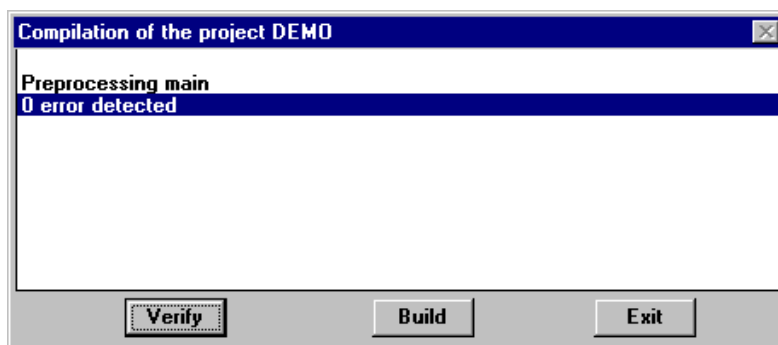

Figure 2-12 : Compiler window. Text after verification: "Verify"
- ⇒ Click the "Verify" button, wait for the message "0 error detected" (Figure 2-12) then click on the "Build" button.